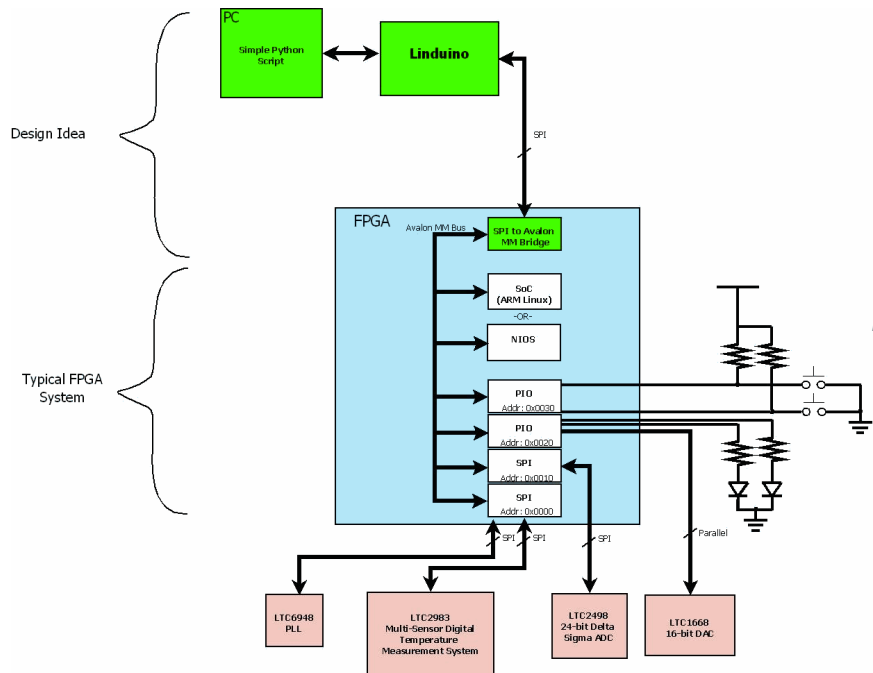

Figure 1.
Many FPGA designs use an embedded processor for control. A typical solution involves the use of a soft processor such as a Nios, though FPGA SoCs with a built-in hard processor have become popular too. Figure 1 shows a typical Altera FPGA system that contains the processor and a mix of peripherals that are connected via Altera's Avalon Memory Mapped (MM) bus. These processors greatly simplify the end application, but require a strong programming background and knowledge of complicated toolchains. This can hinder debug, especially if a hardware engineer needs a simple way to read and write to the peripherals without pestering the software engineer.
This Design Idea uses Altera's *SPI Slave to Avalon MM Bridge* to provide a simple way to hop onto the Avalon bus. There are two advantages to this technique: It does not compromise the original system design, and the bridge can co-exist with the embedded processor. For the system shown in Figure 1, the SPI bridge allows the engineer to directly control the frequency of the LTC6948 fractional-N PLL, set the LTC1668 DAC voltage, read a voltage from the LTC2498 ADC, or read temperatures from the LTC2983, just like the processor can.